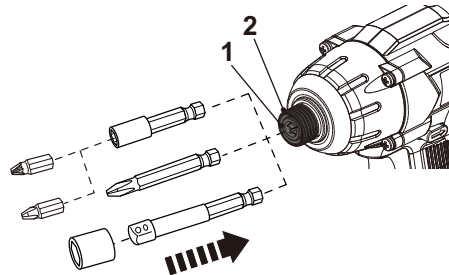

Fig. 1
1. Pull the sleeve (2) and insert a suitable bit holder all the way to the stop into the tool holder (1). Release the sleeve (2) to lock the bit holder in place (Fig. 1).
4. 50 mm long driver bits can be inserted directly into the tool holder (1).